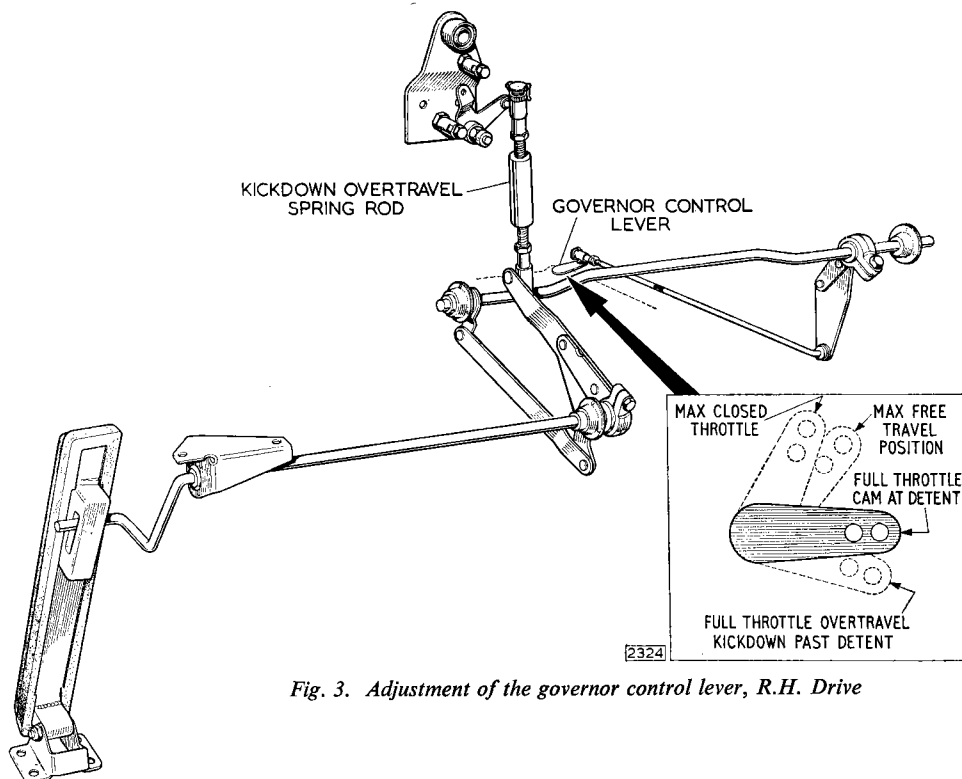

Fig. 3. Adjustment of the governor control lever, R.H. Drive
Before making any adjustment to the accelerator pedal to governor lever linkage (see Fig. 3), the points enumerated under the sub-heading "Carburettor Idling Speed" should be checked and, if necessary, adjusted.
2. Turn the governor lever to the full throttle position, that is, the position where solid resistance is felt before overcoming the cam detent (see Fig. 3).